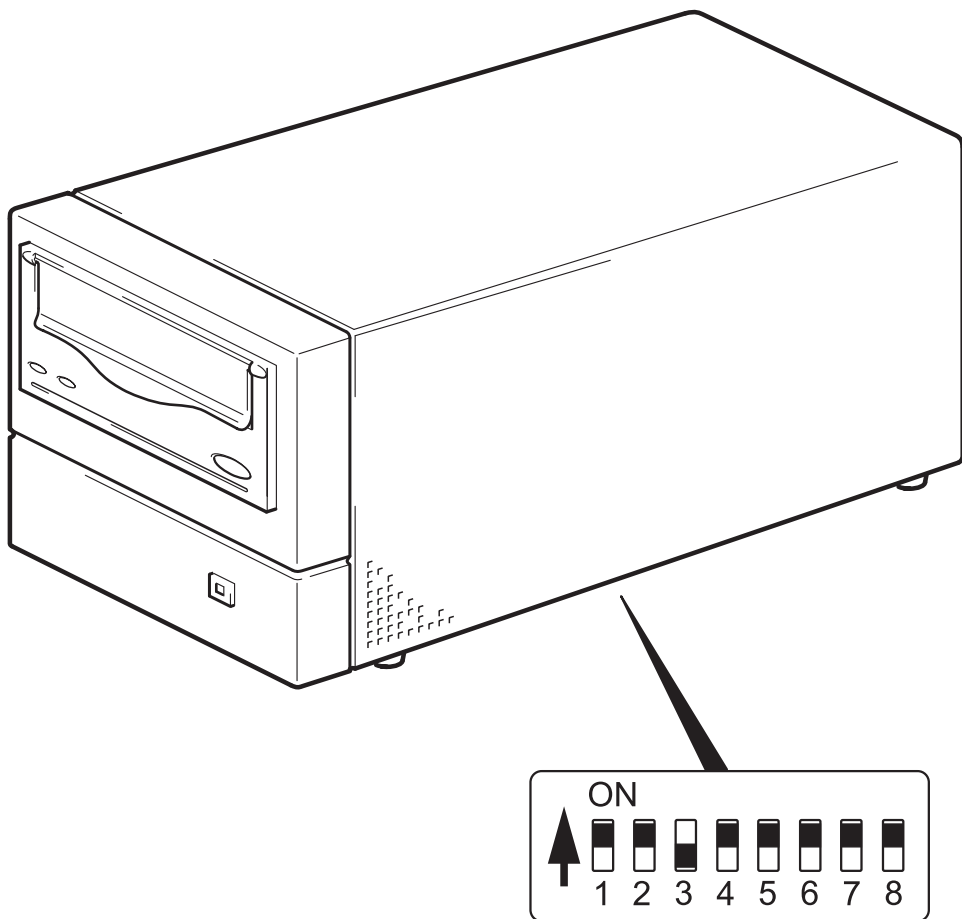

Figure 4: setting the UNIX configuration switches
- 2 If your UNIX configuration requires it, change the configuration switches located on the underside of the tape drive from the default settings shown in figure 4.